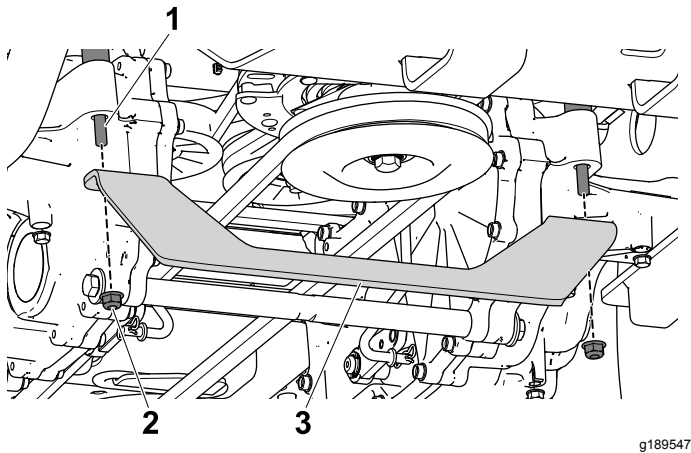

Figure 15
1. Remove the 2 flange nuts from the support bolts on the left and right transmissions and set them aside (Figure 15).
2. Align the bracket to the support bolts and secure them with the 2 flange nuts you removed in the previous step (Figure 15).